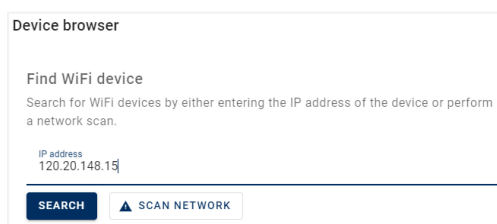

Figure 54
5. Enter the IP address and press **SEARCH** or search the tablet by pressing **SCAN NETWORK** (Figure 54).